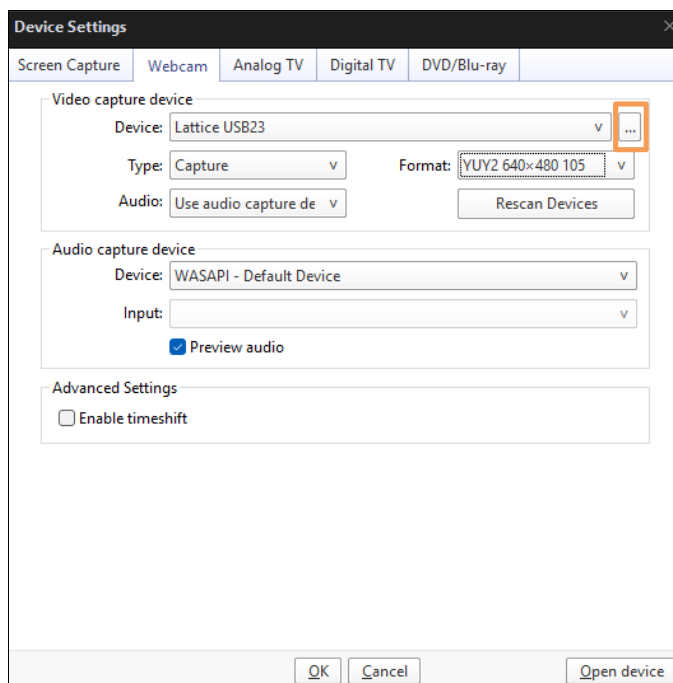

Figure 7.11. Camera Control Setting in PotPlayer 3
5. (Optional) To adjust exposure, re-open **Device Settings**, as shown in the previous steps. Then, click the triple-dot menu to show the **Camera Control** menu (Figure 7.11).